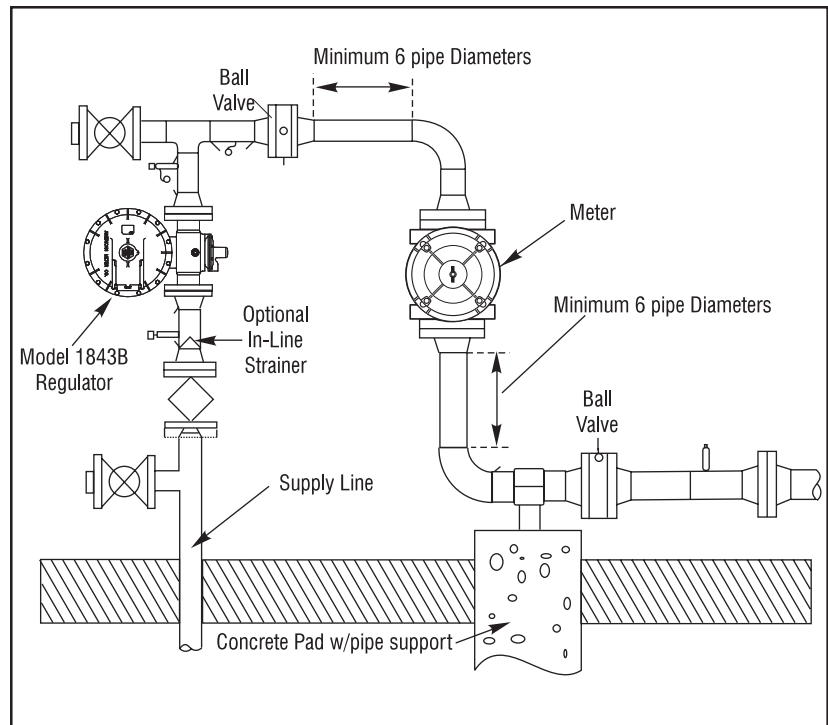

Fig. 2-1 Typical Installation (not to scale)
- AMCO recommends if possible, installing a straight run of pipe without restrictions (i.e., valves, regulators, etc.) for a distance of six pipe diameters on either side of the meter (Fig. 2-1). This optimum set design will prevent a reduction in meter accuracy resulting from a turbulent gas stream.